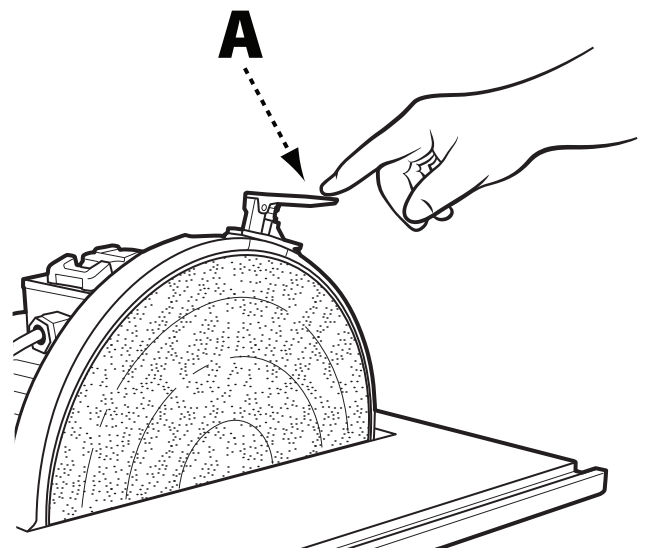

FIGURE 6
This 12" Disc Sander is equipped with a manual disc brake that brings the sanding disc to a safe stop once the power switch has been turned to the "OFF" position. The manual disc brake should only be used once the sander has been turned off. To apply the manual disc brake, press down on brake lever (A) as shown in Figure 6.